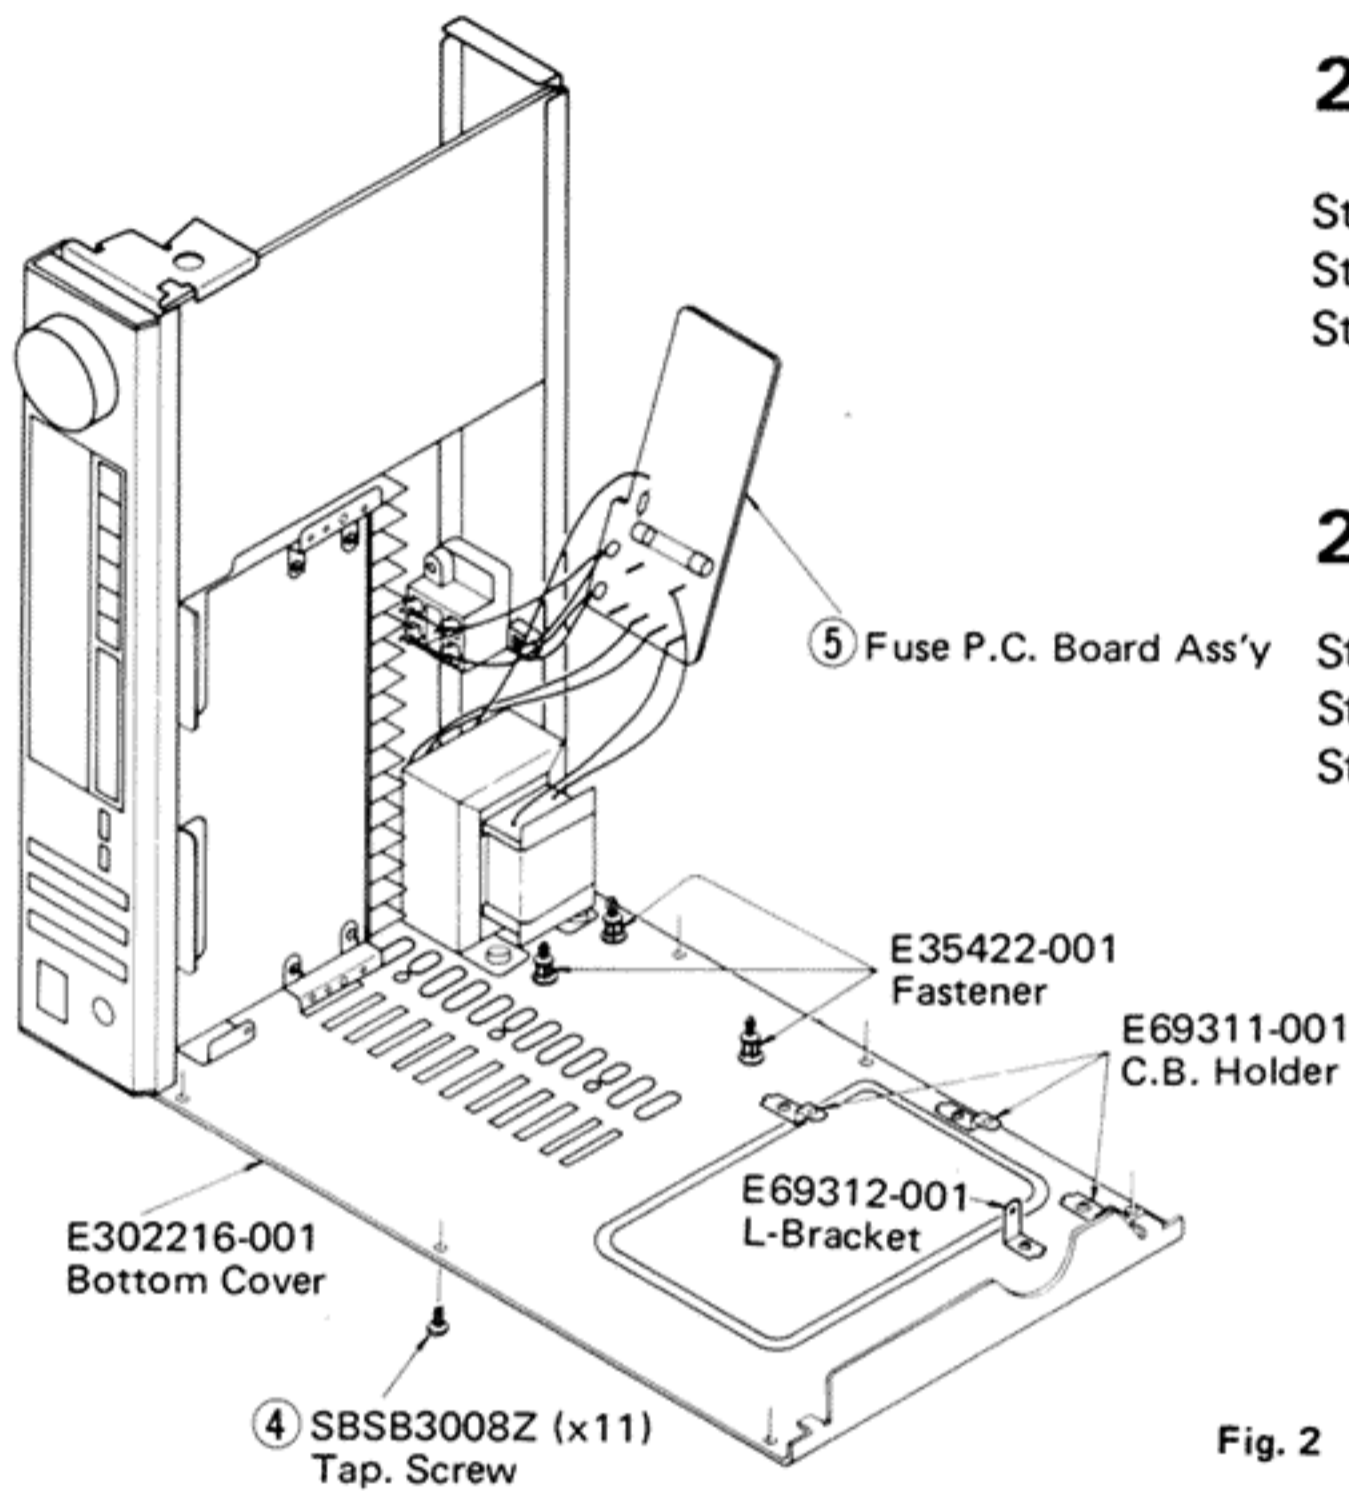

Fig. 2
Step 2: Remove 11 screws ④. (Fig. 2)
Step 3: Remove the Fuse P.C. Board Ass'y ⑤ from fasteners and replace the Bottom Cover.